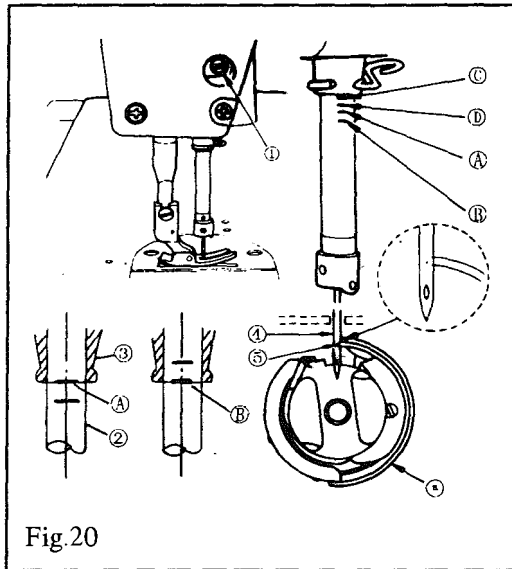

Fig.20
14. NEEDLE-TO-HOOK RELATIONSHIP (Fig. 20)